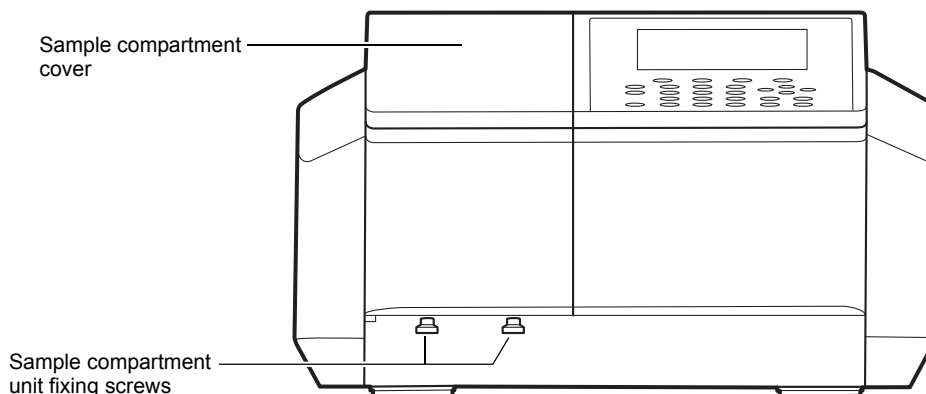

Fig. 4.4 Main body front view
- 2 Tighten two of the sample compartment fixing screws (Fig. 4.4) to fix the sample compartment unit.
- 3 Close the sample compartment cover (Fig. 4.4).
- 5 Close the sample compartment cover (Fig. 4.4).
- 6** Close the sample compartment cover (Fig. 4.4).